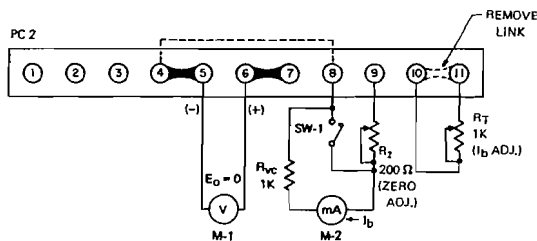

FIG. 3-4 PROGRAMMING RATIO CALIBRATION, METHOD #1
- Connect calibration set-up as shown in FIG. 3-4.